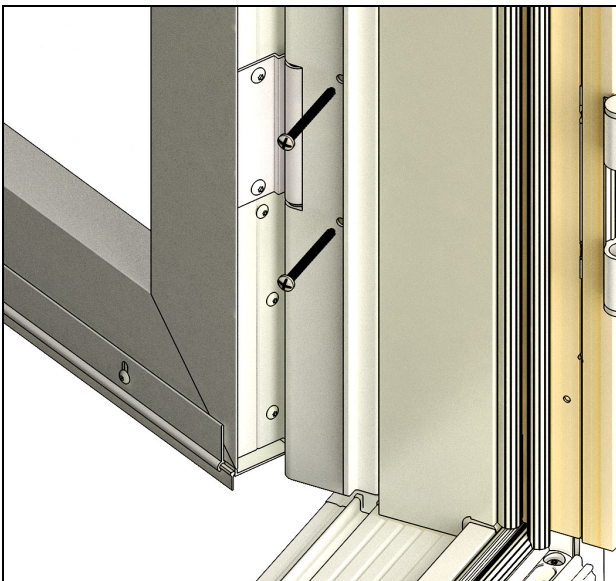

Figure 11
4. Prior to pre-drilling the holes in the hinges, align the side jamb and head jamb miter by moving the side jamb z-bar up and down and in and out. While holding the side jamb z-bar in place pre-drill through the holes in the hinge z-bar with a 1/8" (3) drill bit through the jamb adapter and first wall of the unit cladding. Install and tighten the appropriate sheet metal screws: See Figure 11